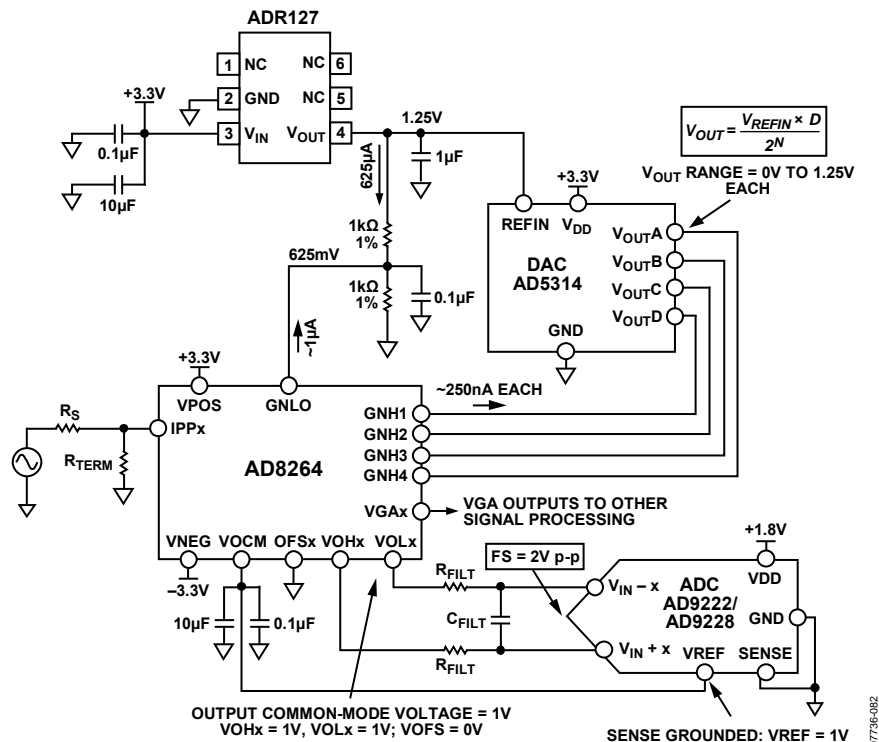
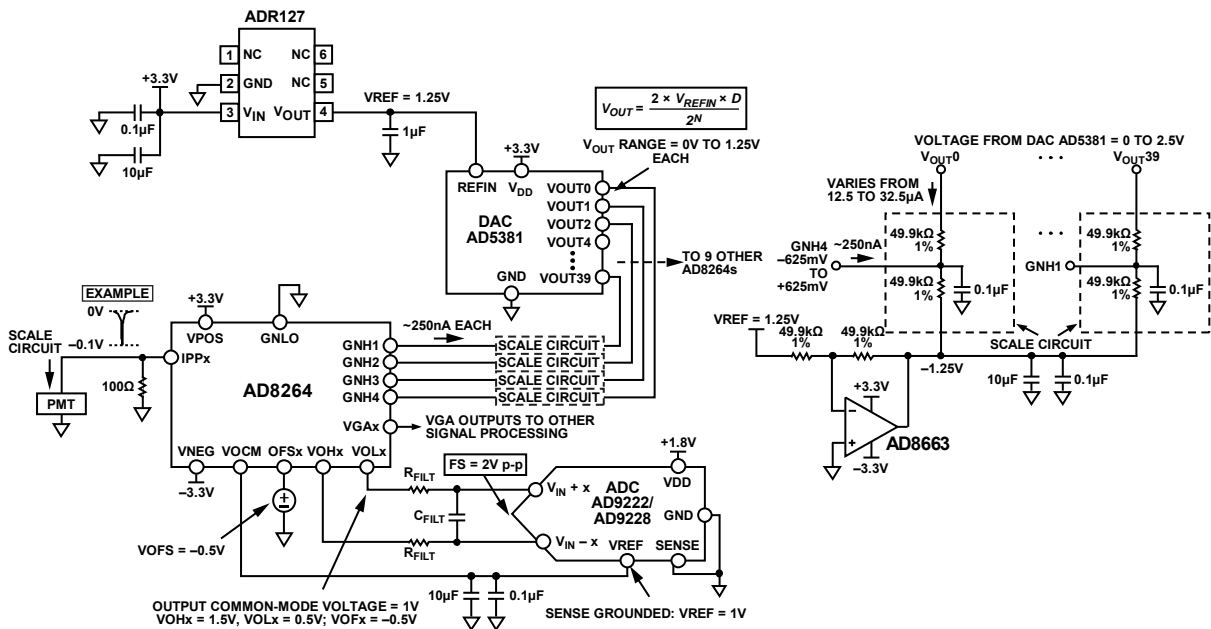

Figure 112. Application Concept of the AD8264 with the AD5314 10-Bit DAC and the AD9222/AD9228 12-Bit ADC
Figure 113. Concept Application of AD8264 with 40-Channel AD5381 12-Bit, 3 V DAC and AD9222/AD9228 12-Bit ADC
The AD8264 is particularly well suited for use in the analog front end of medical PET imaging systems. Figure 112 shows how to use the AD8264 with the AD5314 (a 4-channel, 10-bit DAC) and the AD9222/AD9228 (an octal or quad, 12-bit ADC, respectively). The DAC sets the gain of the AD8264. Note that the full gain span of 24 dB is achieved with this setup because the gain control input range of the AD8264 is very close to 1.25 V. The GNLO pin must offset by $1.25/2 = 625$ mV because the gain control input is bipolar around the voltage applied at GNLO. This is done with two 1 k Ω , 1% resistors. The approximately 1 μ A of bias current flowing from the GNLO pin does not contribute a significant error because the basic gain error of the AD8264 is the limiting factor.
Figure 112 also includes the DAC output equation, which indicates that the output can vary between 0 V and $V_{\text{REF}} = 1.25$ V.
The single-ended-to-differential amplifier of the AD8264 amplifies the VGA output signal by 6 dB and can provide the required dc bias of the AD9222/AD9228, as shown in Figure 112. The ADC is connected with the default internal reference because the SENSE pin is grounded. With this connection, the AD9222/AD9228 VREF pin is an output that provides 1 V; this is then connected to the VOXM input of the AD8264, which sets the output common-mode voltage of the VOHx and VOLx pins to 1 V. This voltage is very close to the recommended optimal value of $V_{\text{DD}}/2 = 0.9$ V. With this configuration, the ADC inputs are set to a full-scale (FS) of 2 V p-p.
The dc connected concept example in Figure 113 is an application with the 40-channel AD5381, 3 V, 12-bit DAC. The main difference between this example and Figure 112 is that, for the same ADR127 1.25 V reference, the full-scale output of the DAC is from 0 V to $2 \times V_{REFIN} = 2.5$ V. Two options for gain control include the following:
- Use the same circuit as in Figure 112 but use only half the DAC output voltage from 0 V to 1.25 V. This is the simplest solution, requiring the fewest extra components. Note that the overall gain resolution increases by one bit to 11 bits over the 10-bit AD5314.
- Ground GNLO and scale the DAC output so that the GNHx inputs vary from -0.652 V to $+0.625$ V. Figure 113 shows a possible circuit implementation using a divider between the DAC output and a -1.25 V reference.
Figure 113 shows how the AD8264 is connected in a PET application. The PMT generates a negative-going current pulse that results in a voltage pulse at the preamplifier input and a differential output pulse on VOLx and VOHx.
A convenient method of verifying and customizing the signal chains shown in Figure 112 and Figure 113 is by ordering the corresponding evaluation boards available on www.analog.com. The AD8264-EVALZ is a platform through which the user can quickly become familiar with the features and performance capabilities of the AD8264. See the Evaluation Board section for more information.